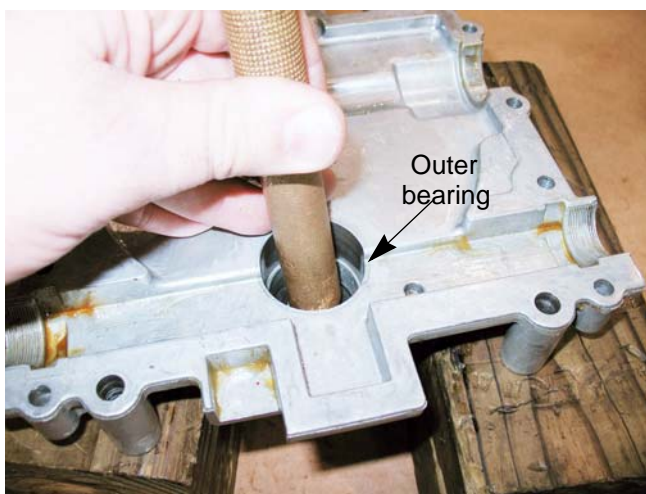

Figure 6.46
20. Drive the outer bearing out of the upper housing using a pin or brass punch and hammer. See Figure 6.46.